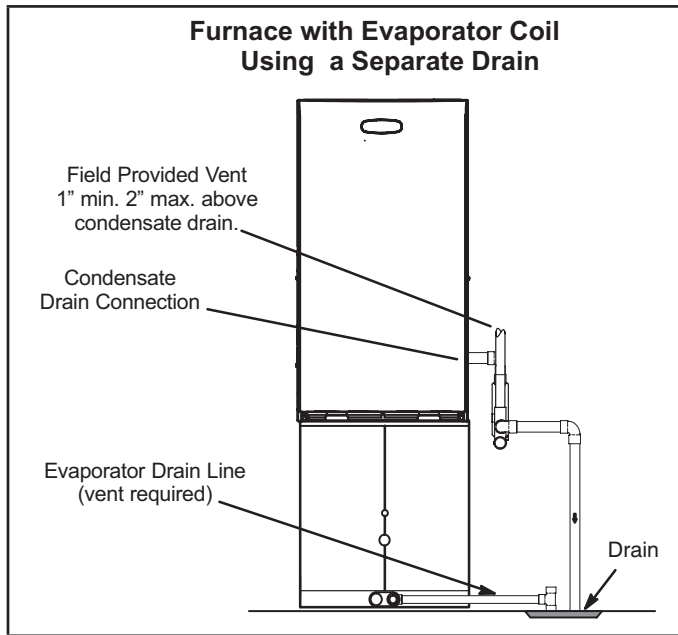
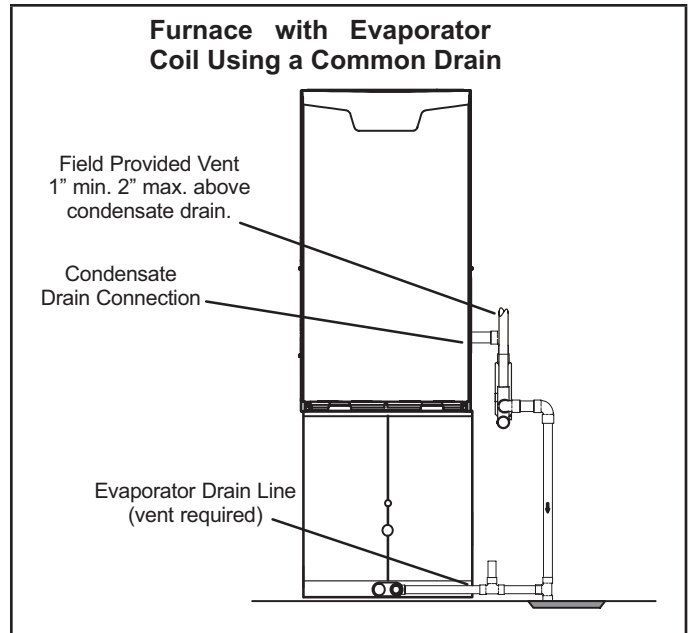
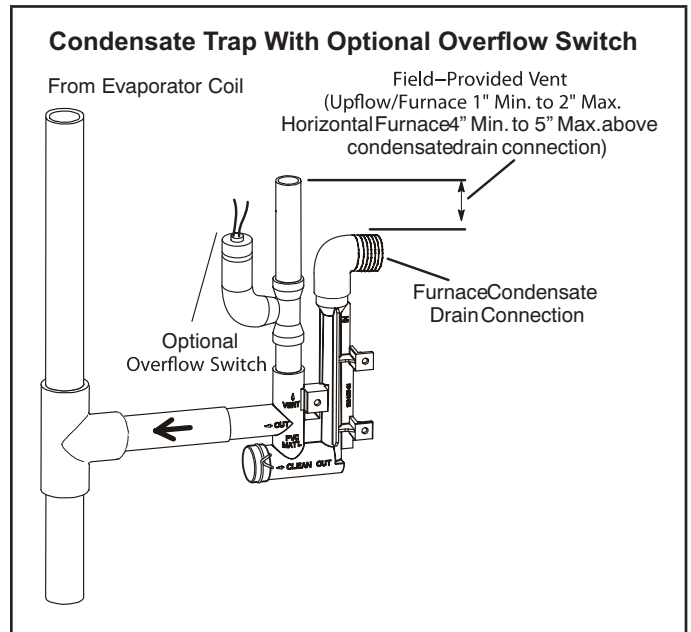

FIGURE 50
FIGURE 51
FIGURE 52
- 5 - FIGURE 50 shows the furnace and evaporator coil using a separate drain. If necessary, the condensate line from the furnace and evaporator coil can drain together. See FIGURE 51 and FIGURE 52. The field provided vent must be a minimum 1" to a maximum 2" length above the condensate drain outlet connection.